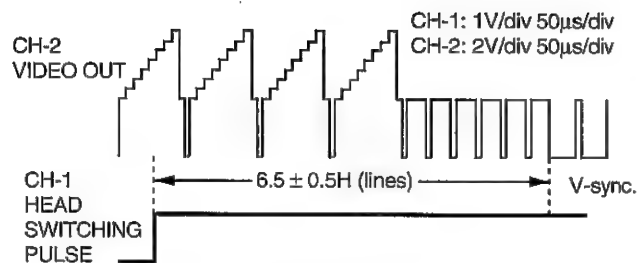

Figure 5-2.
6. Make this checking of waveform on the oscilloscope screen be as shown in Figure 5-2. just after the head switching point have been adjusted.
- ① Set-up of TEST mode.